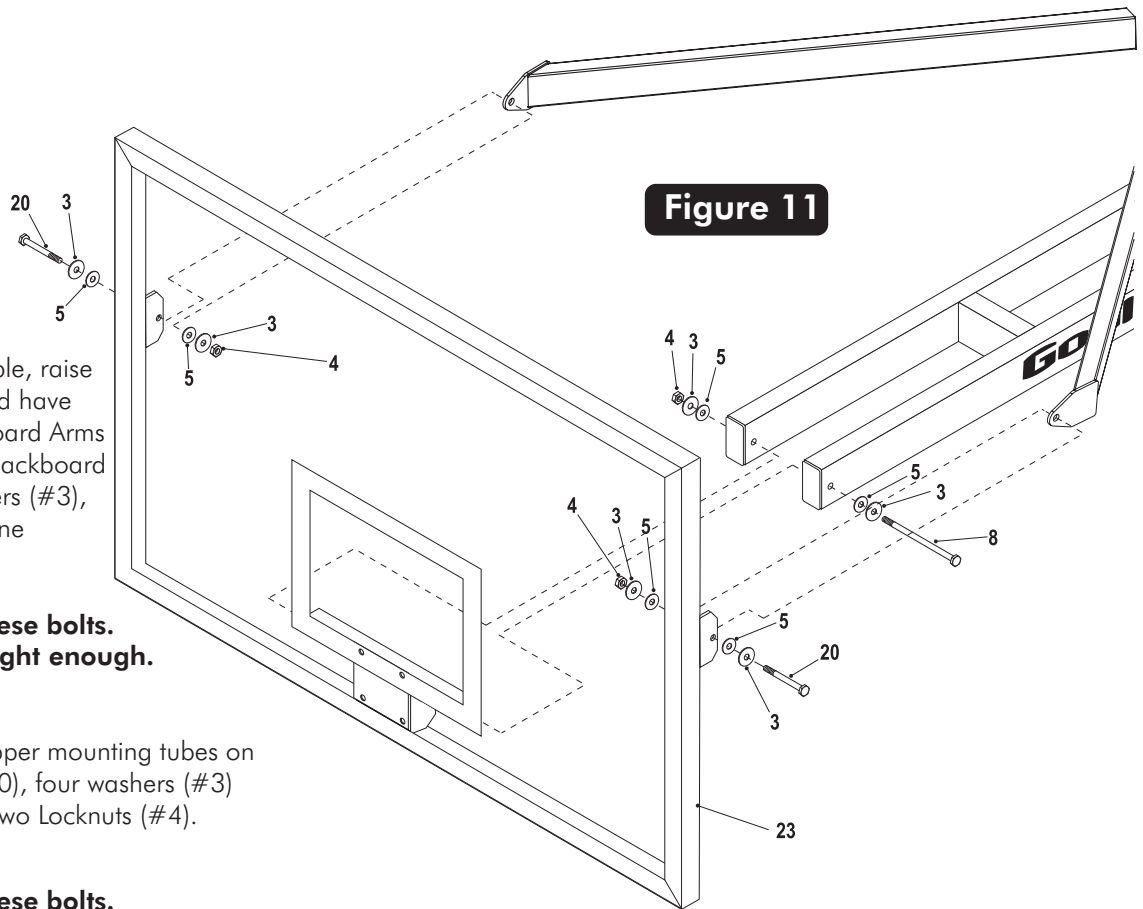

Figure 11
16. With at least four capable people, raise the backboard assembly up and have the fifth person attach Lower Board Arms to the Rim Support (# 21) on backboard using one bolt (#8), two washers (#3), two Plastic washers (#5) and one Locknut (#4). See Figure 11.
17. Attach Upper Board Arms to upper mounting tubes on backboard using two bolts (#20), four washers (#3) four Plastic Washers (#5) and two Locknuts (#4). See Figure 11.